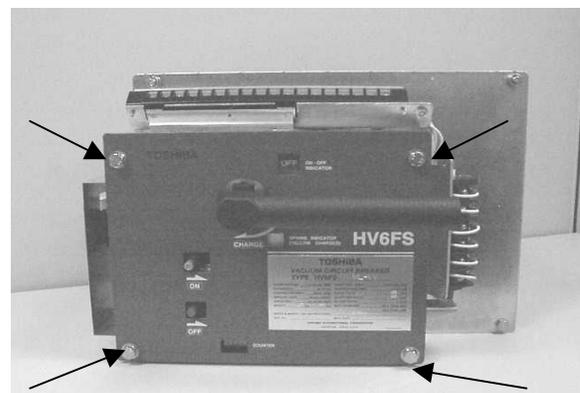

Fig. 11 Fasten Breaker and Front Plate to Panel
4. Using the four M8 bolts removed in step 2, fasten the breaker and its front plate to the mounting panel (Fig. 11). The tightening torque should be 120-150 kgf-cm (9-11 ft-lb).